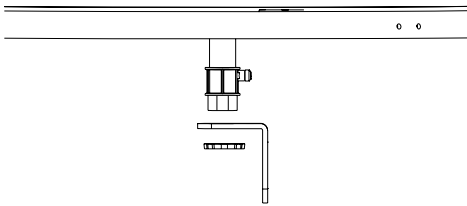

Figure 3 Attach bracket arm to EMT connector
- 4.7. Attach the longer arm of the camera bracket to the end of EMT connector using the clamp nut. Tighten (Figure 3).